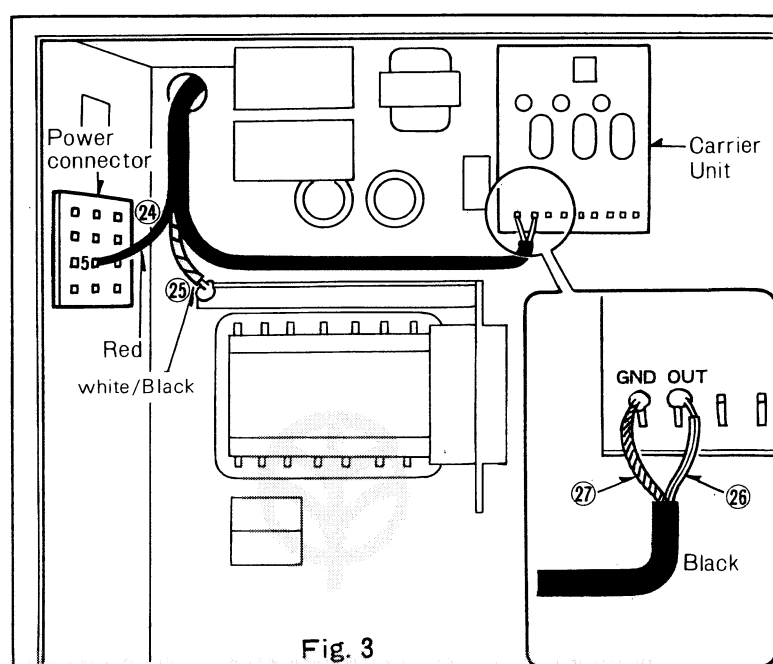

Fig. 3
24. Solder the red solid wire to pin 5 of the power connector as shown in Fig. 3.